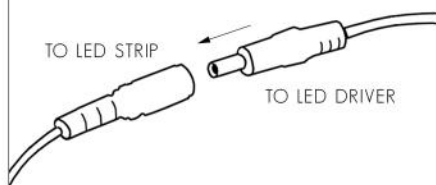

FIG. 6 - ENSURE SUSPENSION RODS ARE TIGHTLY SECURED
4. LIFT LIGHT ASSEMBLY AND INSERT SUSPENSION RODS INTO CEILING BRACKETS, STARTING WITH THE POWER SUPPLY END. ADJUST REMAINING ROD SUSPENSION POSITIONS BY LOOSENING COLLARS AND REPOSITIONING. LOCK IN TO PLACE BY TIGHTENING GRUB SCREW ON ONE SIDE AND HEX HEAD SCREW ON OTHER SIDE, ENSURING HEX HEAD SCREW FITS THROUGH 4MMØ HOLE IN SUSPENSION ROD. (SEE FIG. 6)